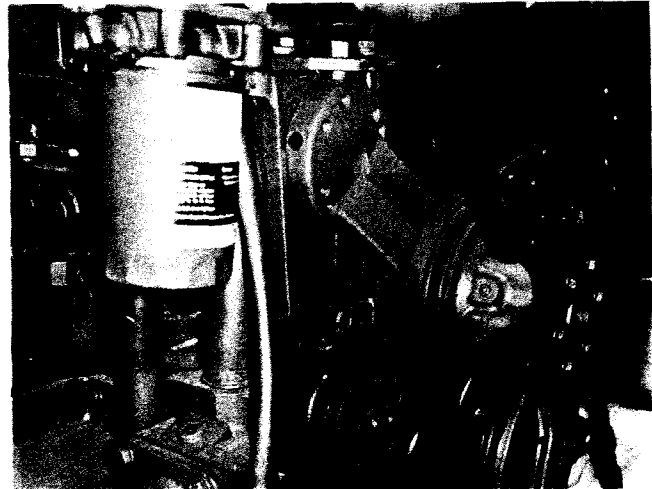

Fig. 2-5, (N12018). Fan hub installation —NTC-350 FFC
5. Tighten NH/NT Engines locknut to 400 to 450 ft-lbs [542 to 610 N • m]; then back off 1/2 turn. Tighten the four 1/2 inch capscrews, Fig. 2-5, on NTC-350 FFC Engines to 75 to 85 ft-lbs [101 to 115 N • m].